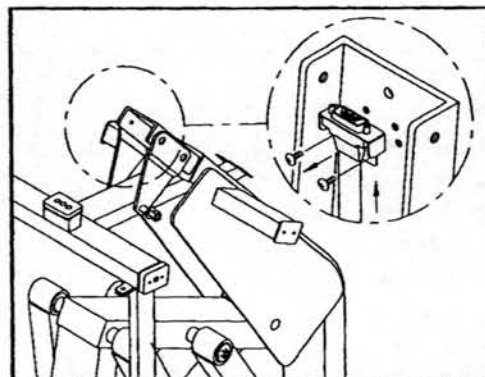

Fig.11-3
4. Release the CONNECTOR OF RIBBON CABLE by removing two screws from the FRAME SUPPORT and then take the RIBBON CABLE OF DRIVE BOARD off (see fig. 11-3)